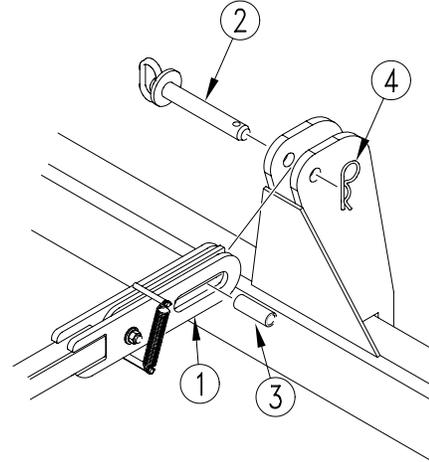

Figure 2-5
10. Attach slotted link from center pivot hitch (1) to top hitch on drill. Using hitch pin (2) and bushing (3), secure with clip pin (4) as shown in Figure 2-5.